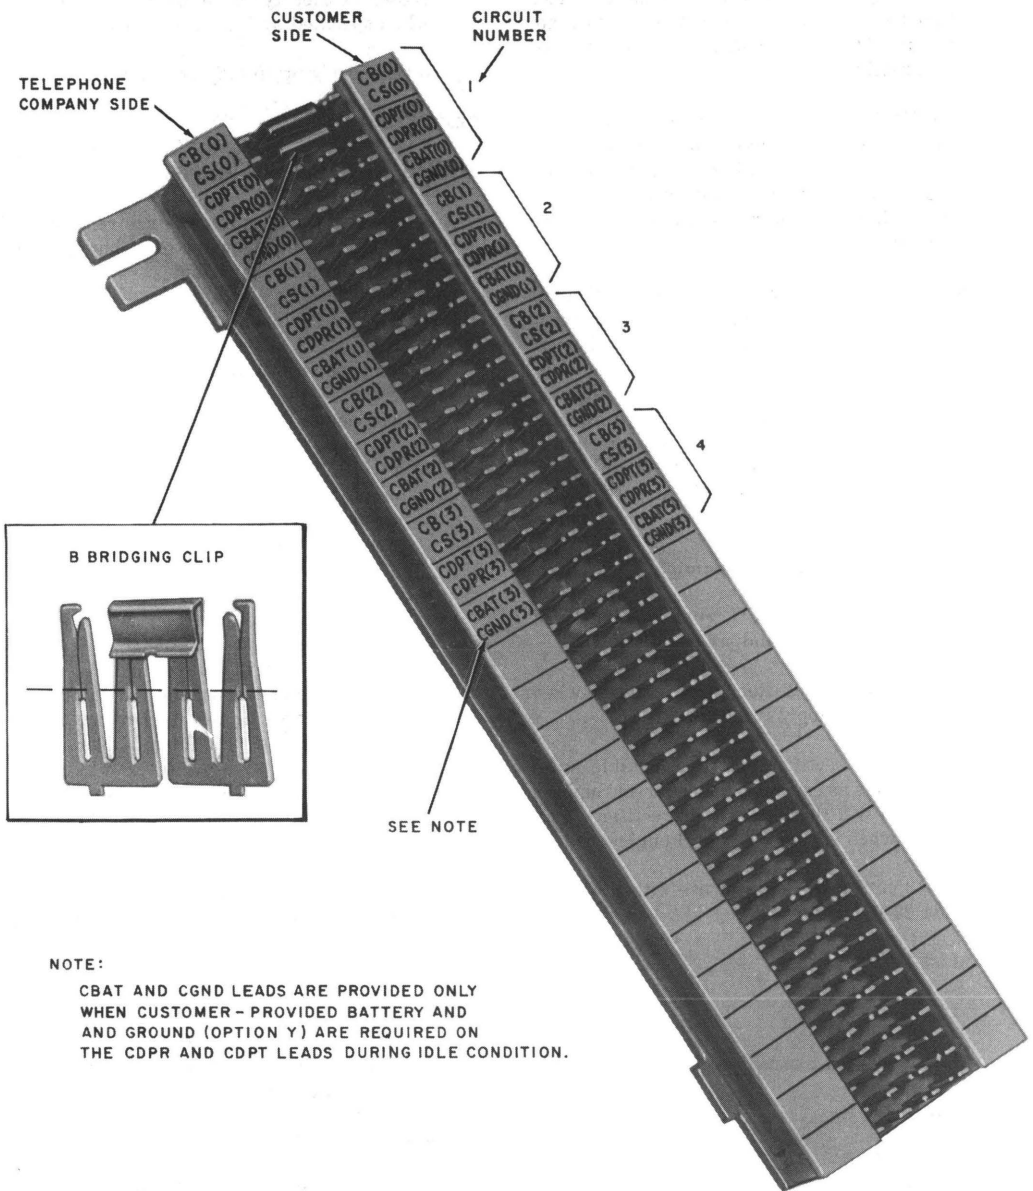

Fig. 6—Typical Interface Connecting Block, Connecting Arrangement CTD Equipped With J53050G, List 2 IU
- Block, Connecting, 66M1-50 (Fig. 6 or 9)
3.02 Use “D” inside wiring cable or equivalent to terminate the leads associated with the CPE on the interface connecting block. Stencil trunk number and lead designations on interface connecting block designation strip (see Fig. 6 or 9).